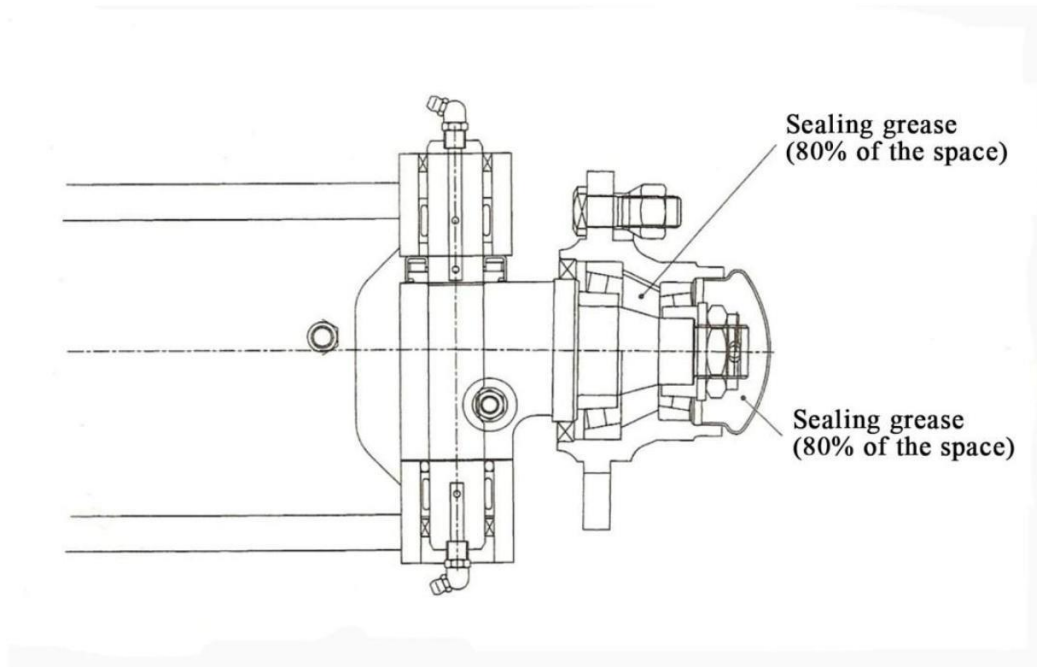

Fig. 3-5 Adding Lubricating Grease and Pre-tightening Load Adjustment
(1) As shown in Fig. 3-5, apply grease to the inner cavity of the hub, inner and outer bearings and hub cover, and apply some grease to the lip of the oil seal;
(2) Fix the bearing outer ring around the hub, and install the hub to the steering knuckle shaft;
(3) Install the flat washer and tighten the slotted nut with a torque of 206~235N.m (21~24kgm). Loosen the slotted nut and then tighten it with a torque of 9.8N.m (1kgm);
(4) Gently knock the hub with a wooden hammer and turn the hub by 3 ~ 4 turns to ensure that the hub is not loose.
(5) Tighten the channel nut and align the channel to the cotter pin hole on the steering knuckle;